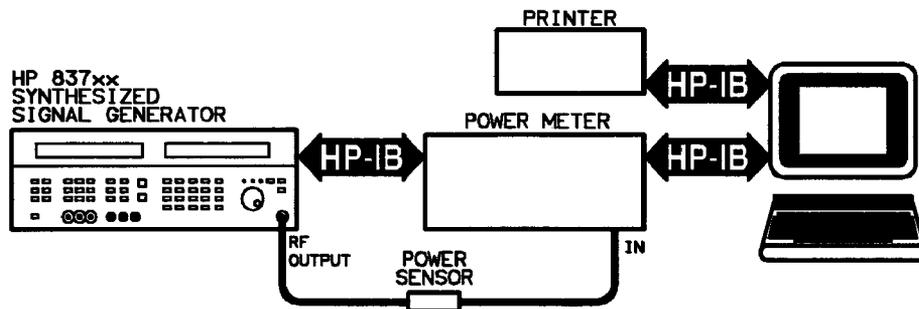

Figure 7-2. 1–20 GHz Vernier Calibration Equipment Setup
2. Set up the equipment as shown in Figure 7-2.